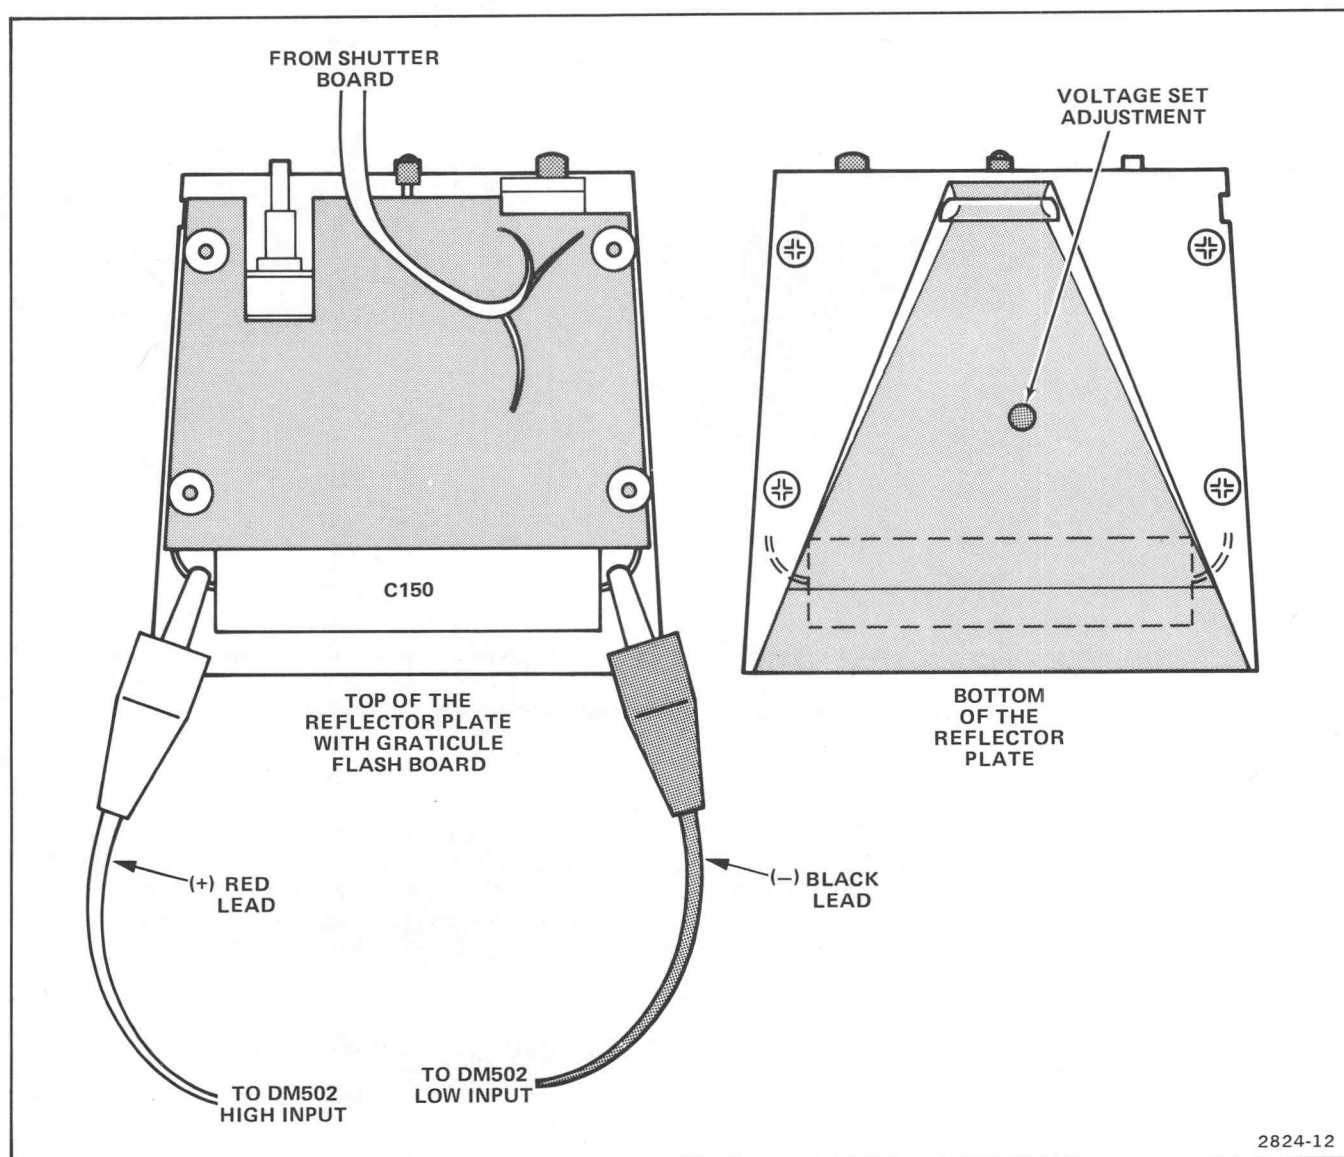

Figure 4-3. Test setup for graticule flash unit charging voltage check and adjustment.
- f. Connect the black test lead from the voltmeter Low input and the red test lead from the High input across C52 on the flash unit circuit board as shown in Figure 4-3.
- g. Using the nylon alignment tool, rotate Voltage Set R25 (on reverse side of the circuit board) fully counterclockwise. Refer to Figure 4-3 for the location of R25.